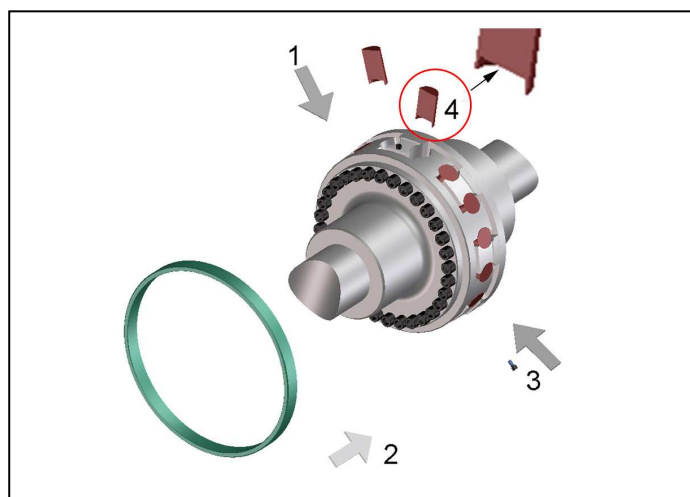

Fig. 13
- At first remove the locking screws (Fig.13, Pos. 3) and then the retaining ring (Fig.13, Pos. 2).
- Mount new buffers of correct size with the hollow pointing inwards (Fig. 13, Pos. 4).